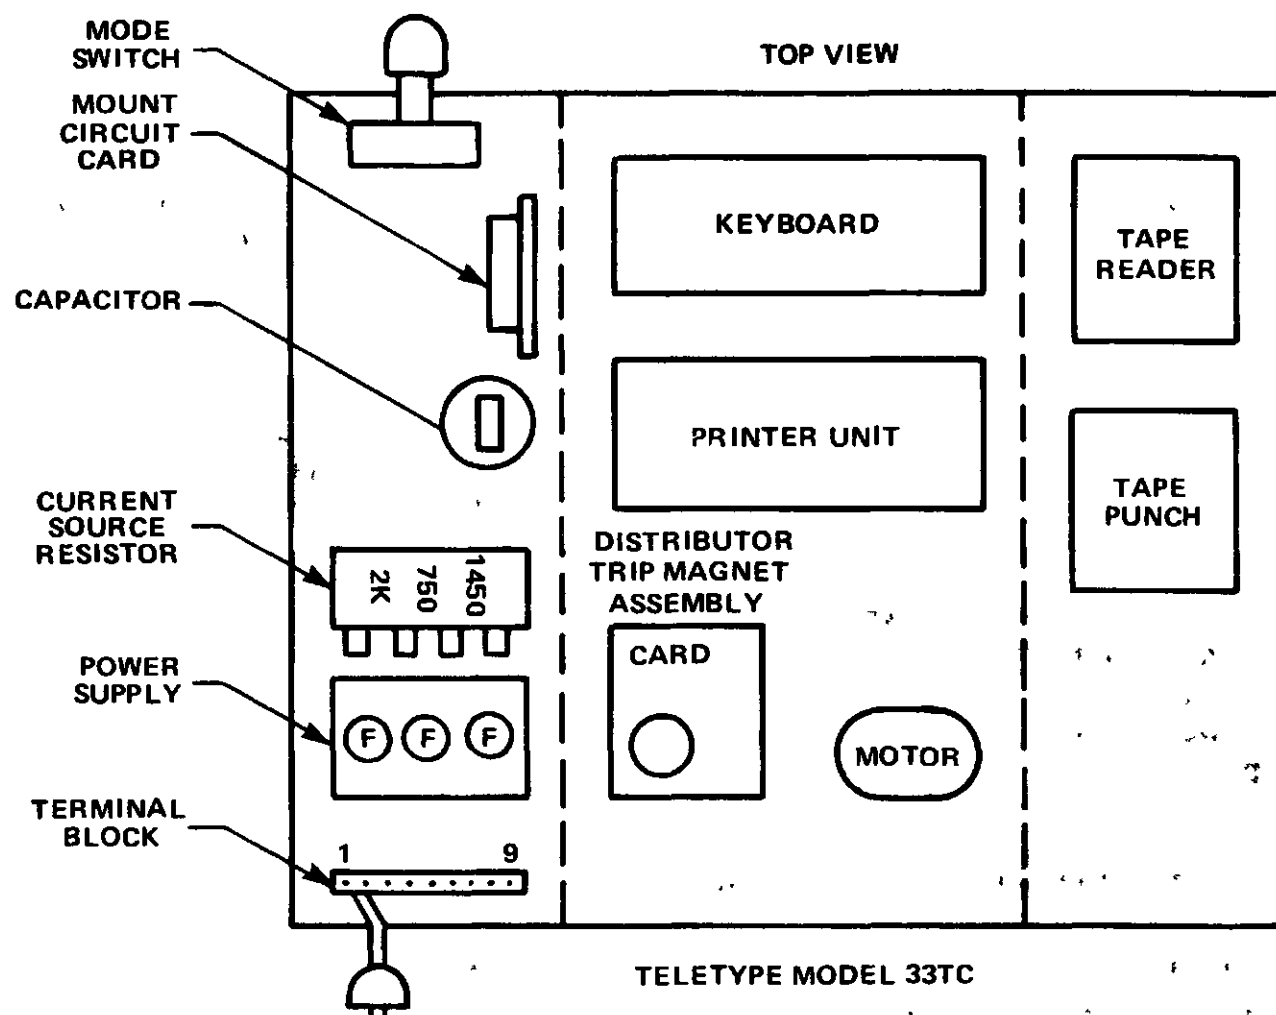

Figure C-1. Teletype Component Layout
1. Remove blue lead from 750-ohm tap on current source register; reconnect this lead to 1450-ohm tap. (Refer to figures C-1 and C-2.)
2. On terminal block, change two wires as follows to create an internal full-duplex loop (refer to figures C-1 and C-3):